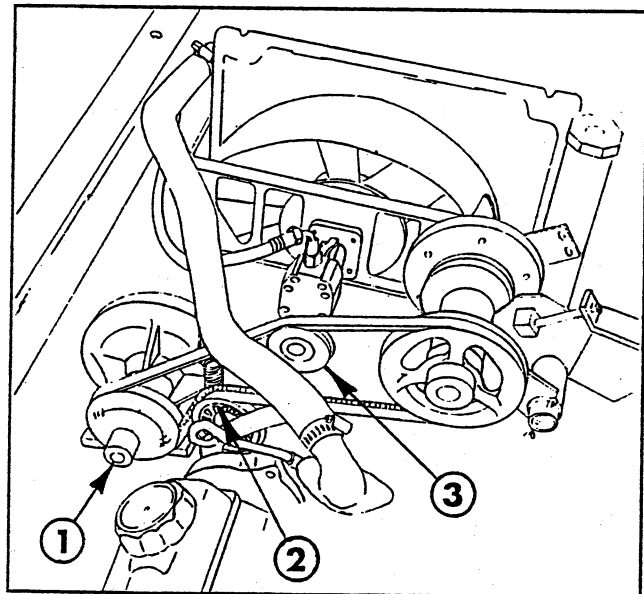

FIG. 5
13. Install the pump drive belt on the pulleys as shown in FIG. 5. After installation of the belt, loosely mount the backside idler pulley in the long slot on the idler pivot bracket using 3/8" x 2" carriage bolt, 3/4" spacer, hex nut, lockwasher, and (2) flat washers. With the belt on the topside of the idler pulley, slide the pulley up until all the slack is removed from the belt, then tighten the nut on the carriage bolt. To apply tension to the belt, place the inside idler pulley under the belt. See FIG. 5.